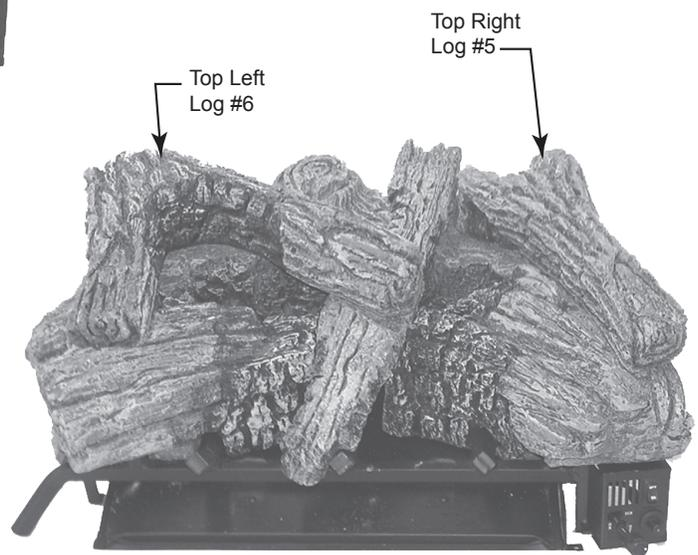

Figure 23
5. Rest top right log #5 on log #3. *Figure 23*
6. Align top left log #6 with notches on log #2 and log #4. *Figure 23*